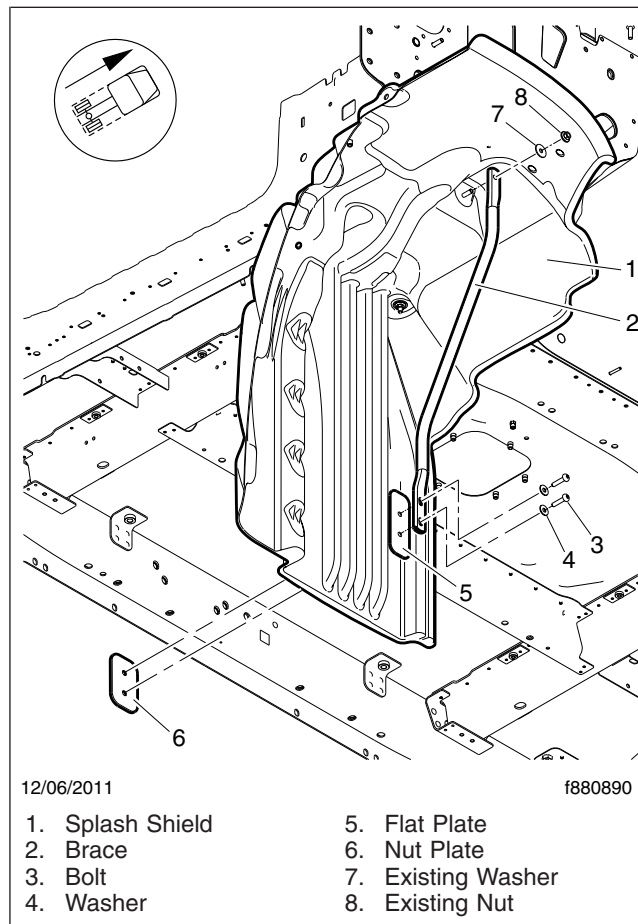

Fig. 1, Splash Shield Brace Installation
5. Using the nut and washer, attach the upper end of the brace to the front-wall stud. Tighten the nut 15 lbf·ft (21 N·m). See Fig. 1.